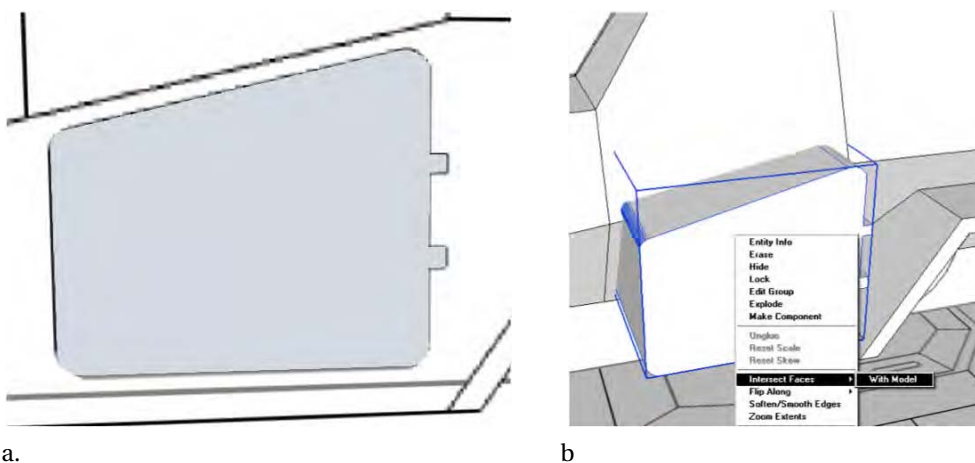

Figure 8-27. Tracing the door of the model and extruding the door
1. Trace the door and window of the model on the images as you did for the fender (Figure 8-27).